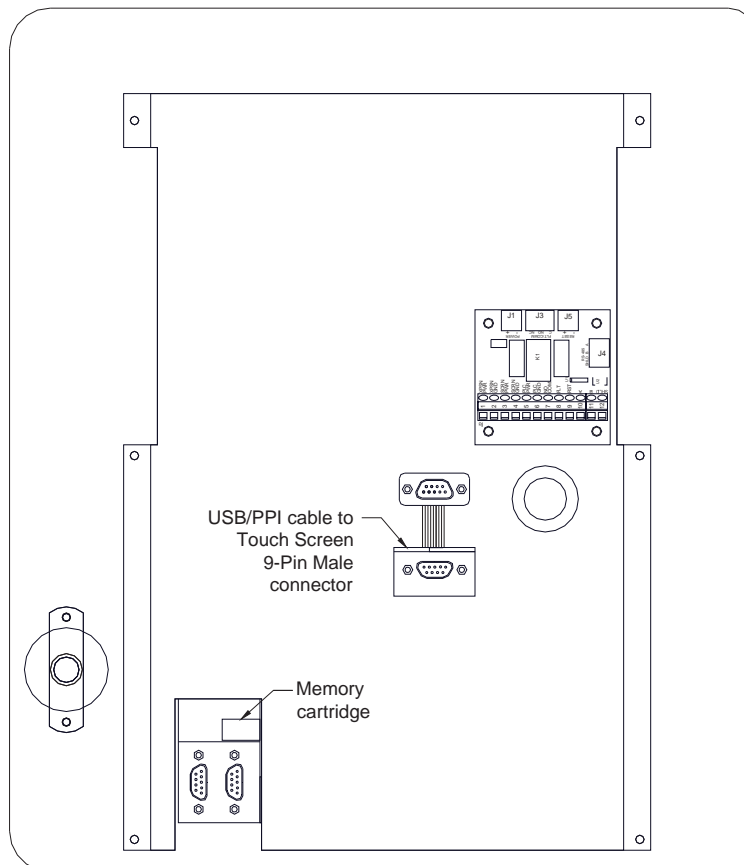

Figure 34 Display Back Panel
1. Disconnect blue DB9 cable from PLC Communications Module (Figure 34).
1. Install memory cartridge with new firmware (refer to Figure 34 for memory cartridge location).